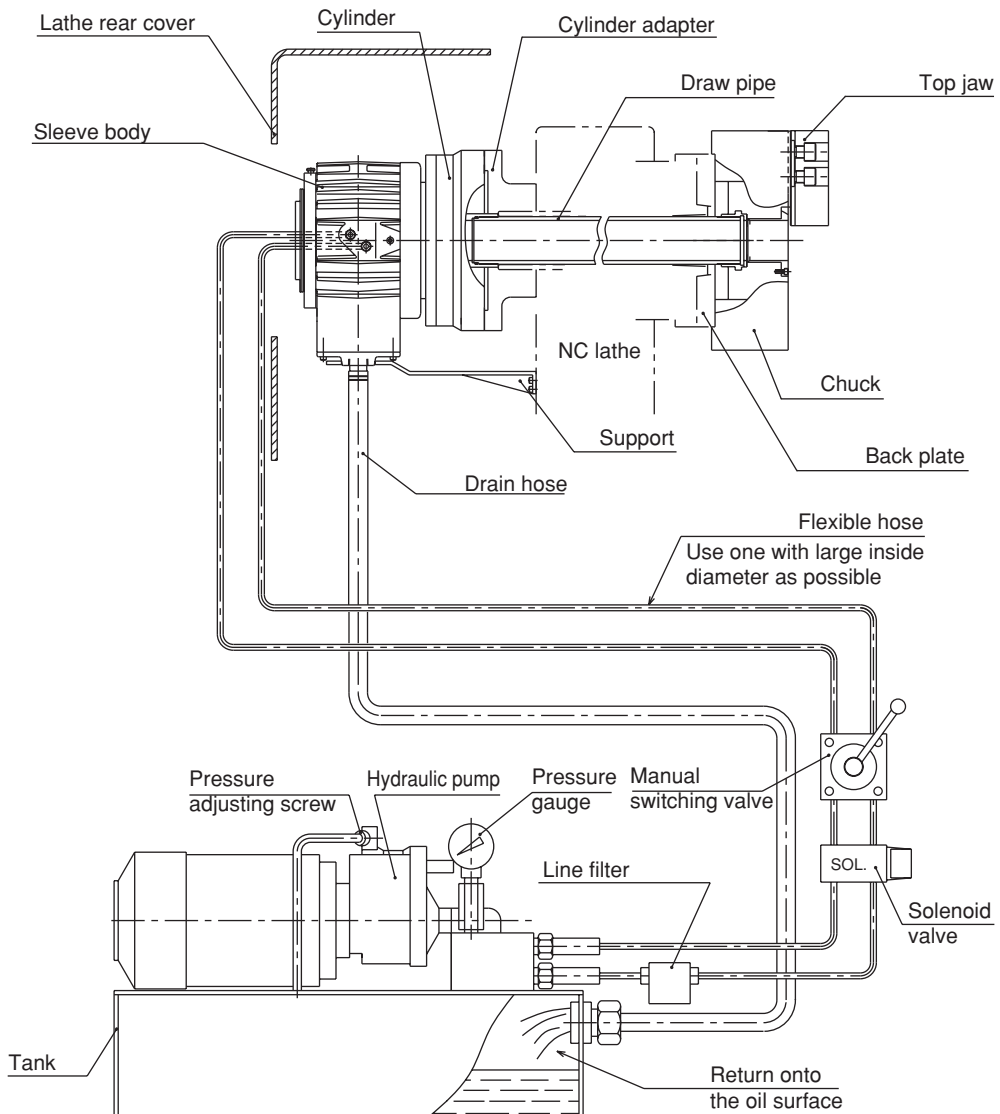

Fig. 10
- The end of the hose is physically above the oil level. (Refer to Fig.10)